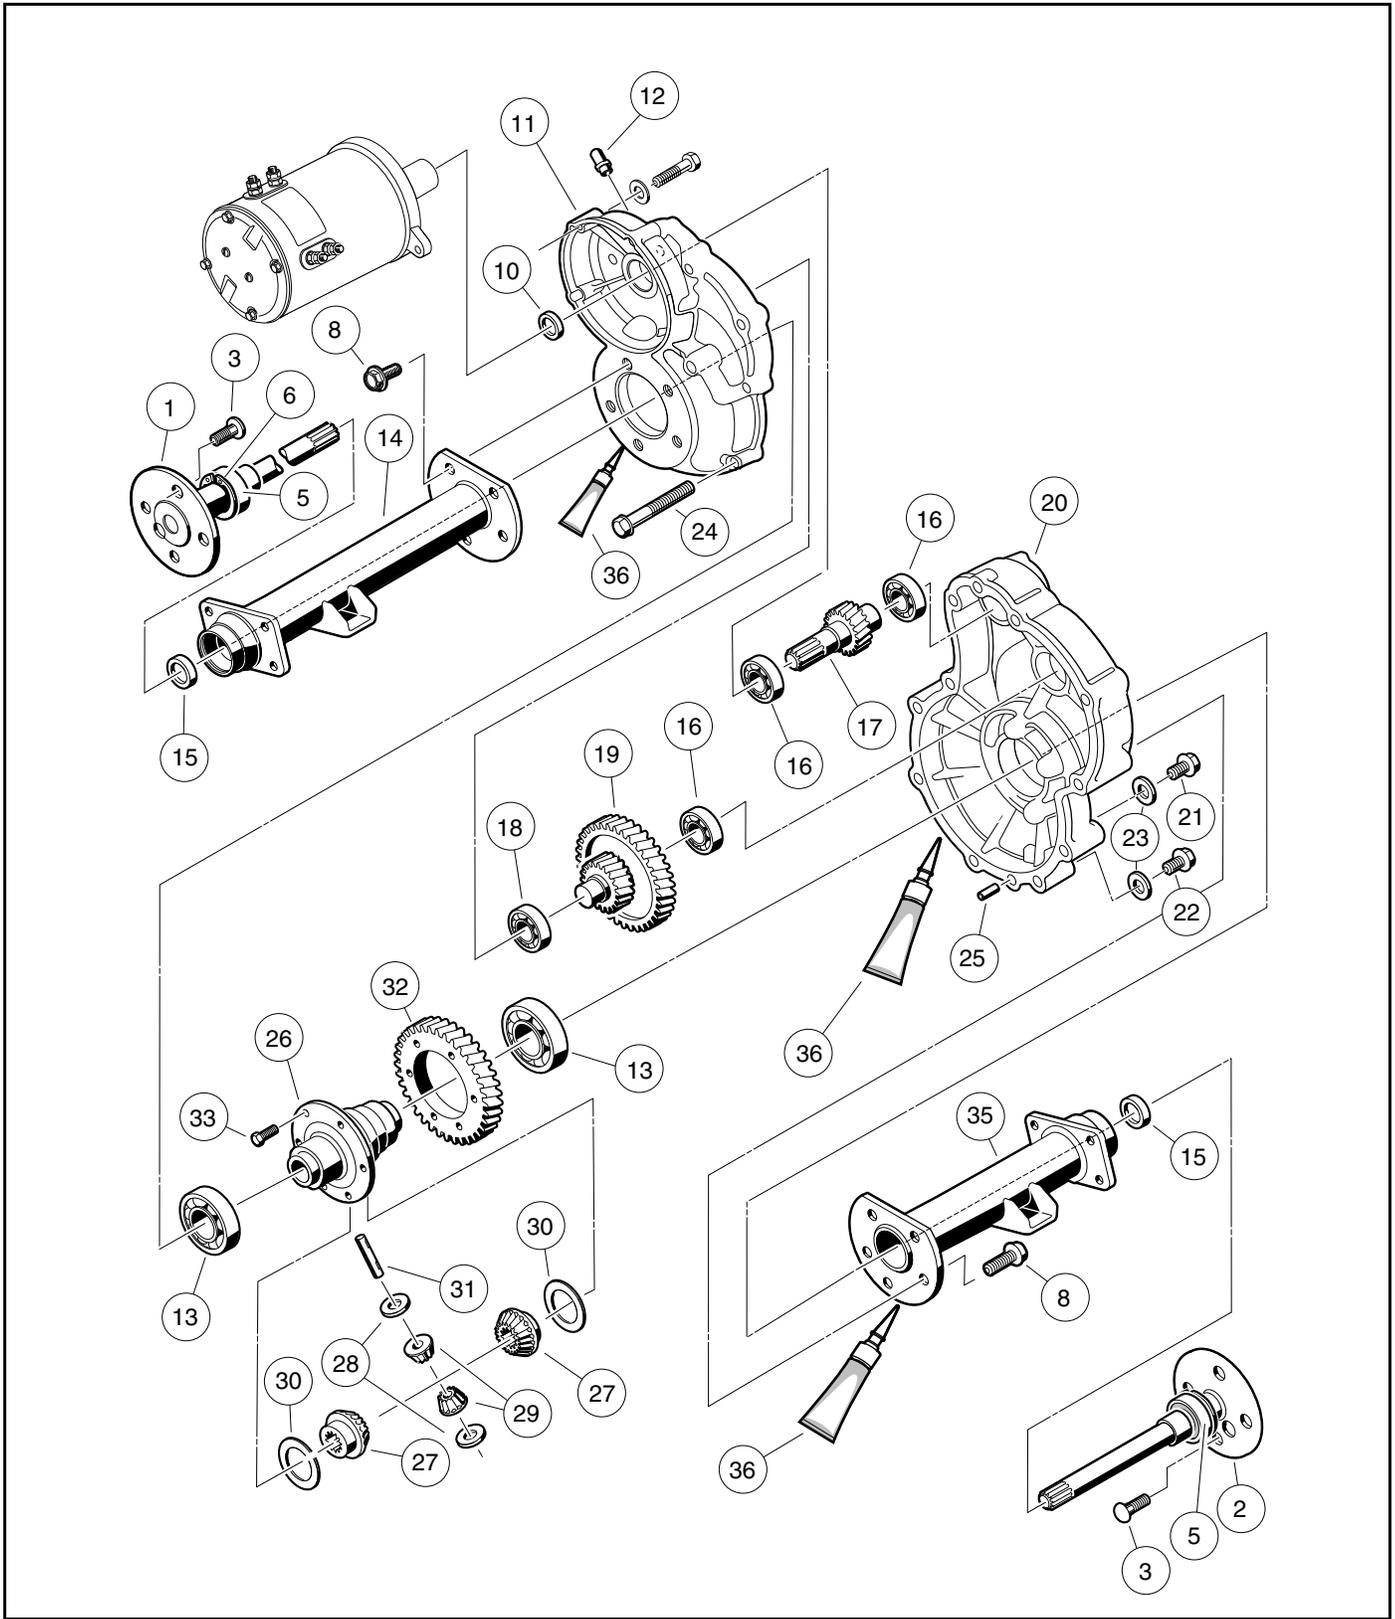
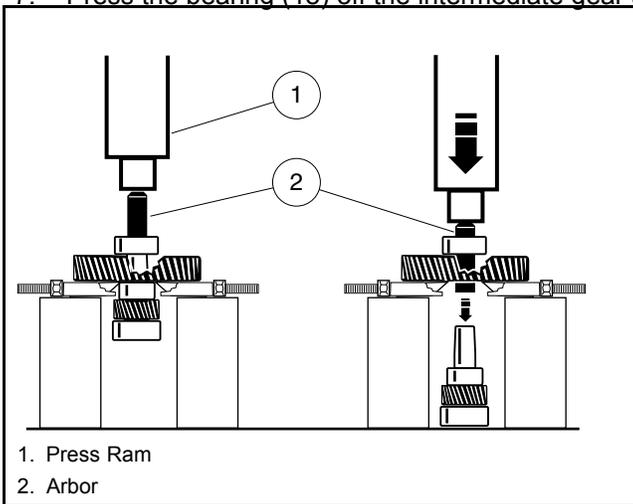

Figure 28-5 Transaxle – Type G
Figure 28-13 Intermediate Gear Assembly
There are two plugs located on the lower half of the transaxle housing. The upper plug (21) (as viewed when the vehicle is on a level surface) is used as a lubricant level indicator (**Figure 28-5, Page 28-3**). When the vehicle is parked on a level surface, the lubricant level should be even with the bottom of the hole. The lower plug (22) is for draining the lubricant. When draining the lubricant, the upper plug should be removed so the lubricant will drain faster. Be sure the drain plug is installed before filling. **See following NOTE.**
8. Inspect bearing (5) (Figure 28-5, Page 28-3). If the bearing in a Type G transaxle is worn or damaged, the entire axle shaft assembly (1 or 2) must be replaced.
- 1.3. Clean adapter ring seat(s) in the axle tube (14 or 35) (**Figure 28-5, Page 28-3**).
- 2.1. Insert the shaft, splined end first, through the seal and into the axle tube. Be careful not to damage the seal on the inside of the axle tube hub. Advance the shaft through to the bearing on the shaft, then rotate it to align the shaft splines with the splined bore of the differential side gear (27) (**Figure 28-5, Page 28-3**). Continue advancing the shaft until the bearing on the axle is firmly seated within the axle tube hub seat.
- 2.2. Use a pair of snap ring pliers to install the retaining ring (6) inside axle tube hub so that it seats against the axle bearing assembly and into the machined slot in the inside wall of the axle tube hub (**Figure 28-5, Page 28-3**). **See following NOTE.**
NOTE: If the retaining ring (6), axle bearing (5), or sleeve (4) must be replaced, the entire axle shaft assembly (1 or 2) must be replaced (**Figure 28-5, Page 28-3**).
Do not remove the axle bearing (5) from a Type G transaxle. If bearing is worn or damaged, the entire axle assembly (1 or 2) must be replaced (**Figure 28-5, Page 28-3**).
1. To detach axle tubes (14 and 35) from the transaxle housing, remove the bolts (8) (**Figure 28-5, Page 28-3**).
2. Remove 11 bolts (24) that hold housing together.
3. Pull the halves of the housing (11 and 20) apart. If necessary, tap lightly on the spline of the input pinion (17). **See following CAUTION.**
4. Remove input pinion gear (17) by pulling gear out while rocking intermediate gear assembly (19). Lift intermediate gear assembly and differential gear case unit out simultaneously (**Figure 28-5, Page 28-3**). **See following CAUTION.**
5. Use a bearing puller or arbor press to remove bearings (16) from the input pinion gear. If the oil seal (10) is damaged, replace it (Figure 28-5, Page 28-3). See also Figure 28-13, Page 28-8. See following CAUTION.
6. To disassemble the intermediate gear assembly, press off together the bearing (16) and the gear (19) (Figure 28-5, Page 28-3). See also Figure 28-13, Page 28-8.
7. Press the bearing (18) off the intermediate gear assembly (Figure 28-5, Page 28-3).
- 8.1. Remove the hex bolts (33) and the ring gear (32) from the differential case (Figure 28-5, Page 28-3).
- 8.4. Remove the differential pin (31) by pushing pin through differential gear case from one side (Figure 28-5, Page 28-3). See also Figure 28-15, Page 28-9.
8.7. Inspect the bearings (13) of the differential case (26) and replace them if they are damaged (**Figure 28-5, Page 28-3**). To remove them, press them off. **See following CAUTION.**
1. If bearings (13) were removed during disassembly, install new bearings using an arbor press (**Figure 28-5, Page 28-3**).